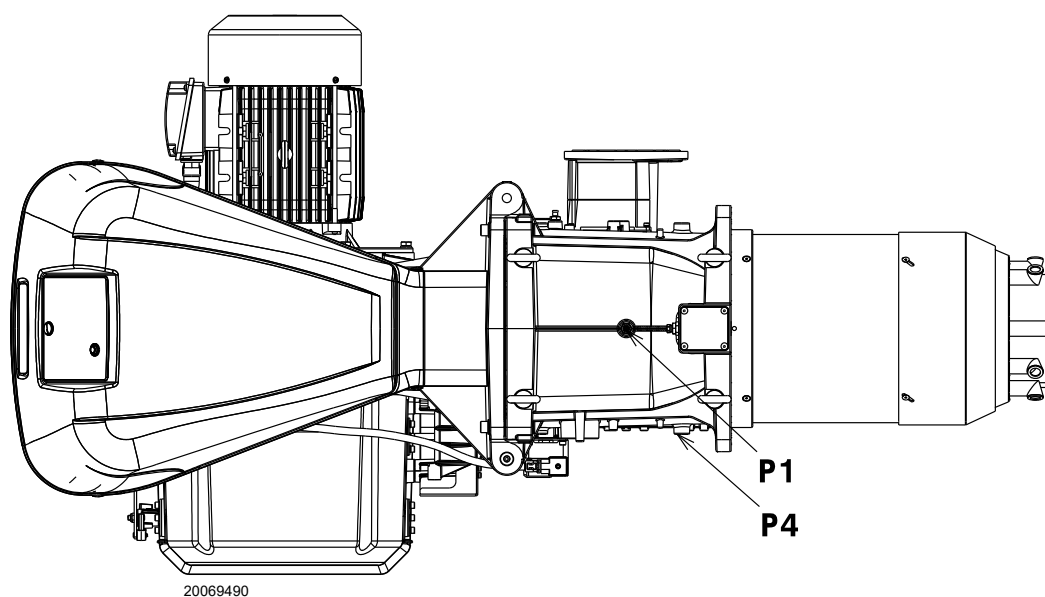

Fig. 26
Gas pressure measured at the test point P1)(Fig. 26), with:
- subtract the combustion chamber pressure from the gas pressure measured at test point P1)(Fig. 26).
Gas pressure at test point P1)(Fig. 26) = 58.1 mbar
To calculate the required gas pressure at test point P1)(Fig. 26), set the MAX output required from the burner operation:
- Read, on the right (column 1), the pressure at the test point P1)(Fig. 26).
Pressure required at test point P1)(Fig. 26).